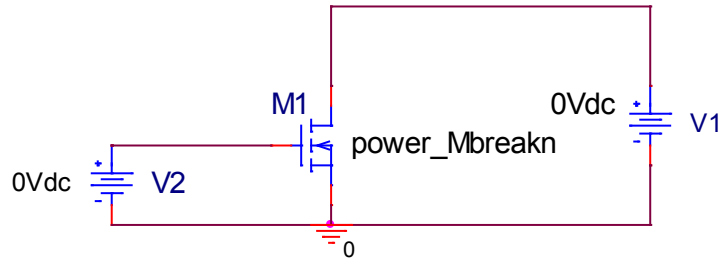

Fig. 3
1- Draw the schematic shown in Fig. 3. Create a new simulation profile with name “transistor Characteristics”. For the NMOS use the POWER NMOS that can be accessed by going to PLACE→PSPICE Components→Discrete→Power NMOS.
- d) Plot i_D versus v_{GS} with v_{DS} as a parameter (only one curve at single value of v_{DS} such that $v_{DS} \geq v_{GS} - V_t$). In this case, modify Fig. 3 so that V1=6 V. Set the simulation setting as follows: